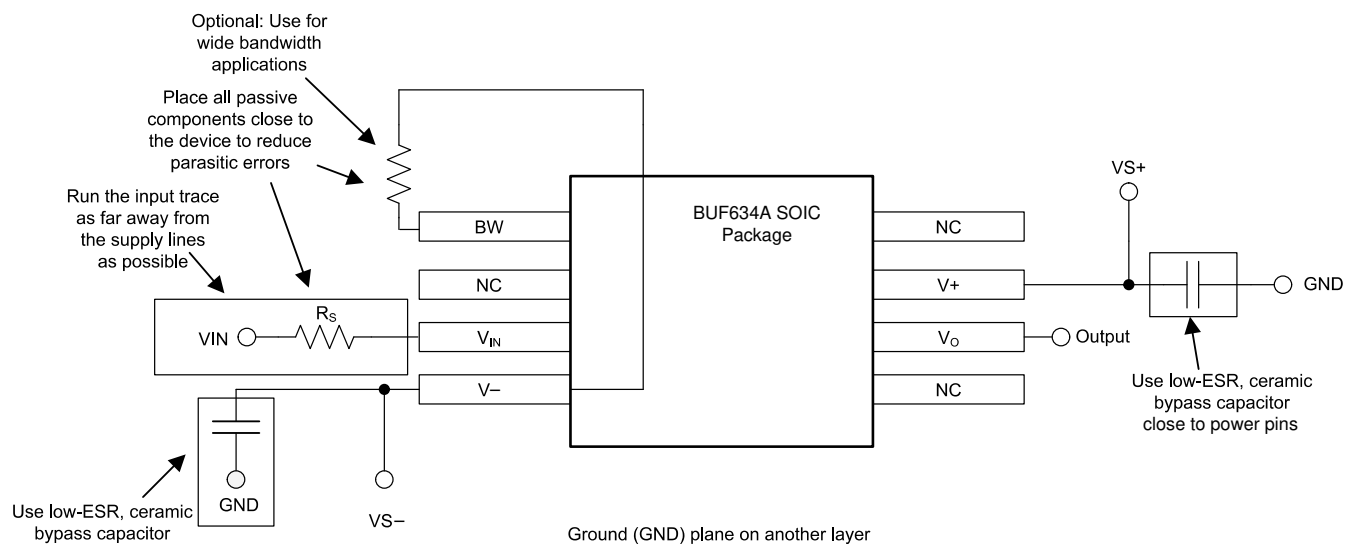

图 11-2. BUF634A Layout Example (SOIC)
- Place the external components as close to the device as possible, as illustrated in Figure 11-2.